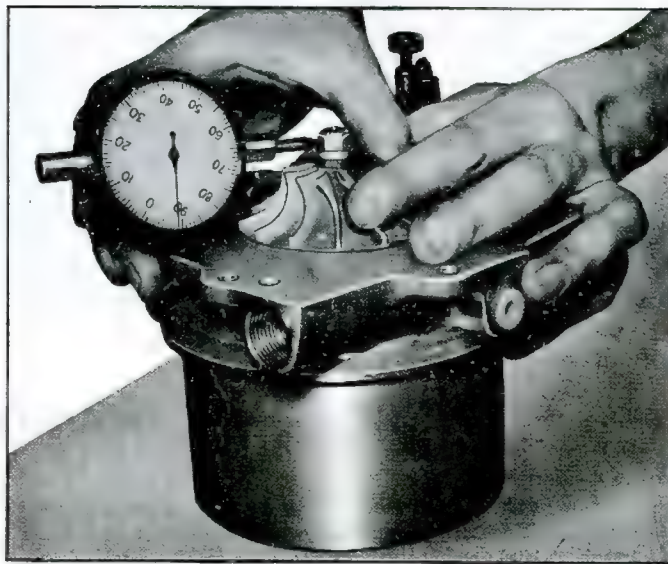

Fig. 38—Gauging Turbine Shaft Radial Play
- a. With the assembly on the support ring (Tool J-21004), position the dial indicator so its point is resting on a flat of the impeller nut (fig. 38) and needle set at zero.